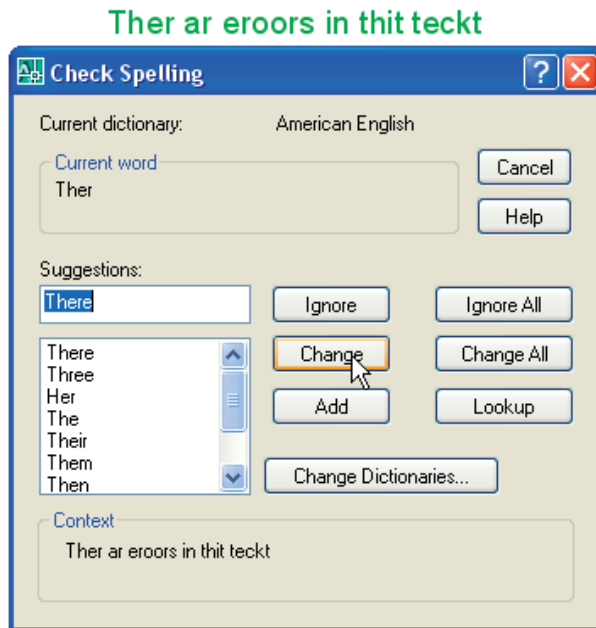

Fig. 6.41 Second example – the **Check Spelling** dialog
1. Enter some badly spelt text as indicated in Fig. 6.41.
3. *Click* the badly spelt text and *right-click*. The **Check Spelling** dialog appears (Fig. 6.41). Wrongly spelt words appear in the **Current work** field with words to replace them in the **Suggestions** field. Select the appropriate spelling as shown. Continue until all text is checked.